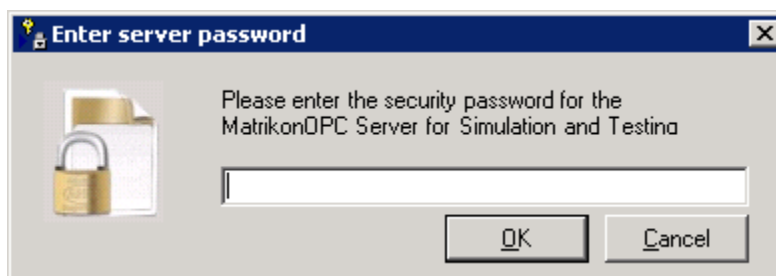

Figure 62 - Enter Server Password Window
1. A window appears asking for a password to be entered. This protects the security settings and prevents unauthorized individuals from accessing these settings. For servers that required a security password to be entered during their installation, the **Enter server password** window (Figure 62) appears.